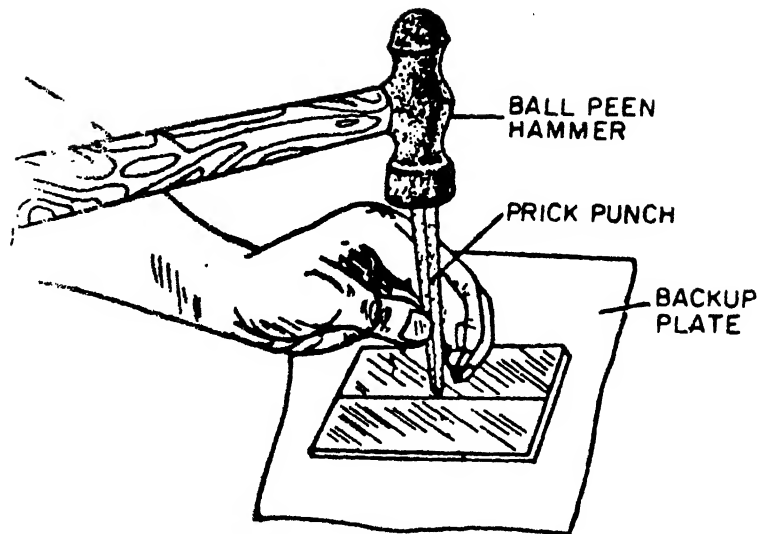

FIGURE 4
- d. Using the flat face of the ball peen hammer, lightly and squarely strike the prick punch once. See Figure 4.